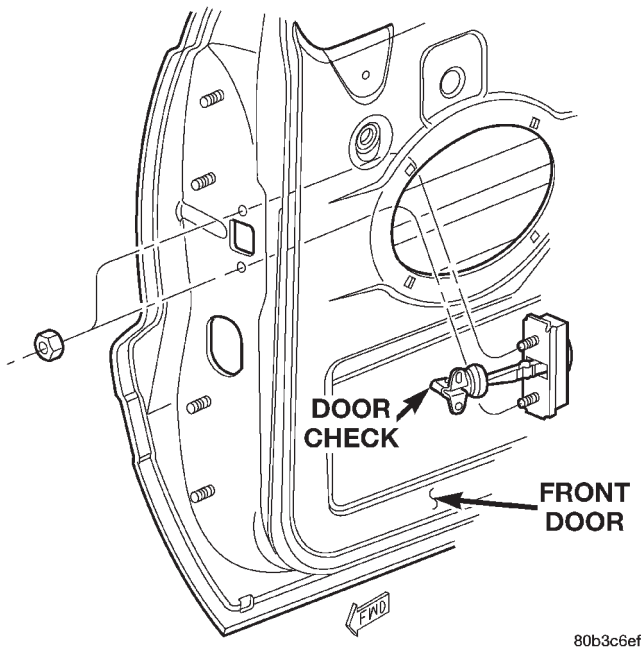

Fig. 18 Front Door Check
- (1) Open and support door.
- (2) Using a wax pencil, or other suitable device, reference mark the hinge placement
- (3) Disconnect the door wire harness.
- (4) Remove the door check from the "A" pillar (Fig. 18).